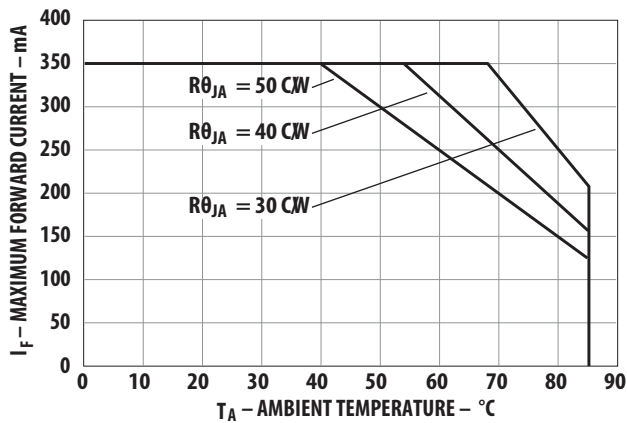

Figure 11. Maximum Forward Current vs. Ambient Temperature for InGaN
1. DC forward current – derate linearly based on Figure 5 for AllnGaP & Figure 11 for InGaN.